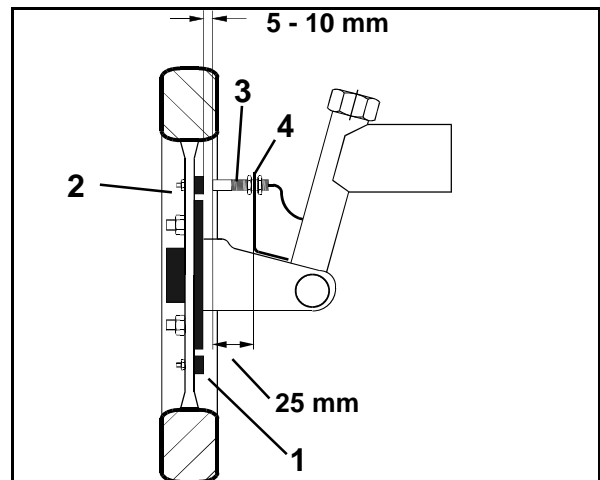

Fig. 175
1. Evenly distribute the magnets (Fig. 175/1) on the plug gage in the wheel shell of the tractor front wheel.
2. Attach the magnets (Fig. 175/1) by using bolts (Fig. 175/2) made from non magnetic material (brass bolts or highest grade V4A steel).